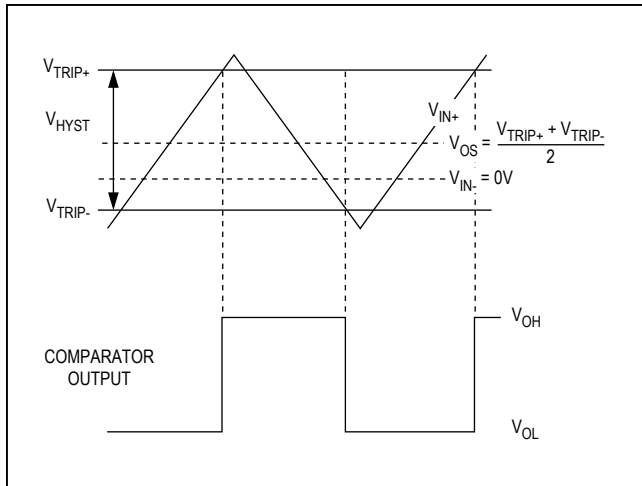

Figure 1. Input and Output Waveform, Noninverting Input Varied
- Note 2:** The input-referred trip points are the extremities of the differential input voltage required to make the comparator output change state. The difference between the upper and lower trip points is equal to the width of the input-referred hysteresis zone (see Figure 1).
- Note 3:** VOS is defined as the center of the input-referred hysteresis zone (see Figure 1).
The hysteresis in a comparator creates two trip points: one for the rising input voltage and one for the falling input voltage (Figure 1). The difference between the trip points is the hysteresis. When the comparator's input voltages are equal, the hysteresis effectively causes one comparator input voltage to move quickly past the other, thus taking the input out of the region where oscillation occurs. Standard comparators require hysteresis to be added with external resistors. The MAX941/MAX942/MAX944's
Figure 1 illustrates the case where IN- is fixed and IN+ is varied. If the inputs were reversed, the figure would look the same, except the output would be inverted.